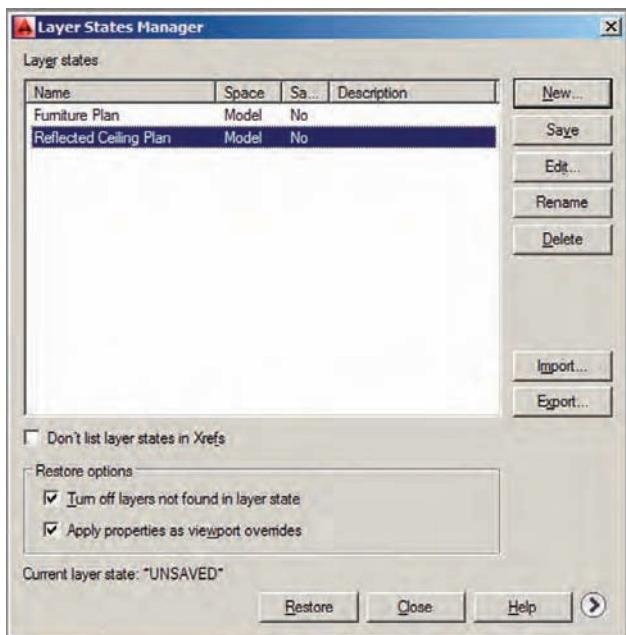

FIGURE 14.21 Restoring a layer state in floating model space
11. Type **LAYERSTATE** and press Enter. Select the Reflected Ceiling Plan layer state and then click the Restore button (see Figure 14.21).